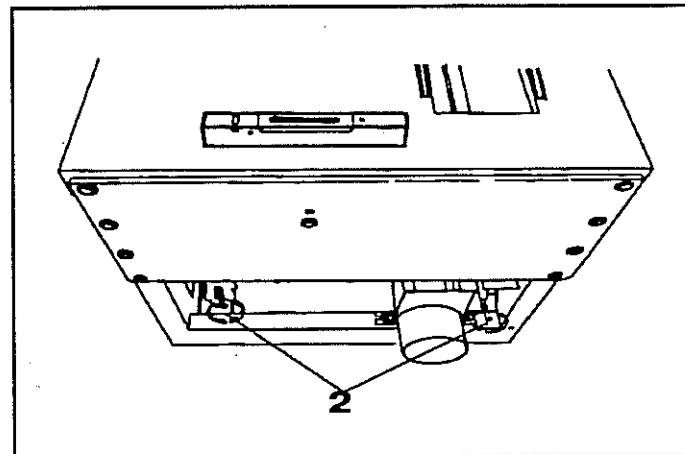

Fig.2.7
- 2- Place the level longitudinally in the centre of the top of the machine. Make fine adjustments on the end grub screws opposite to the side already leveled. (Points 2 of fig.2.7)